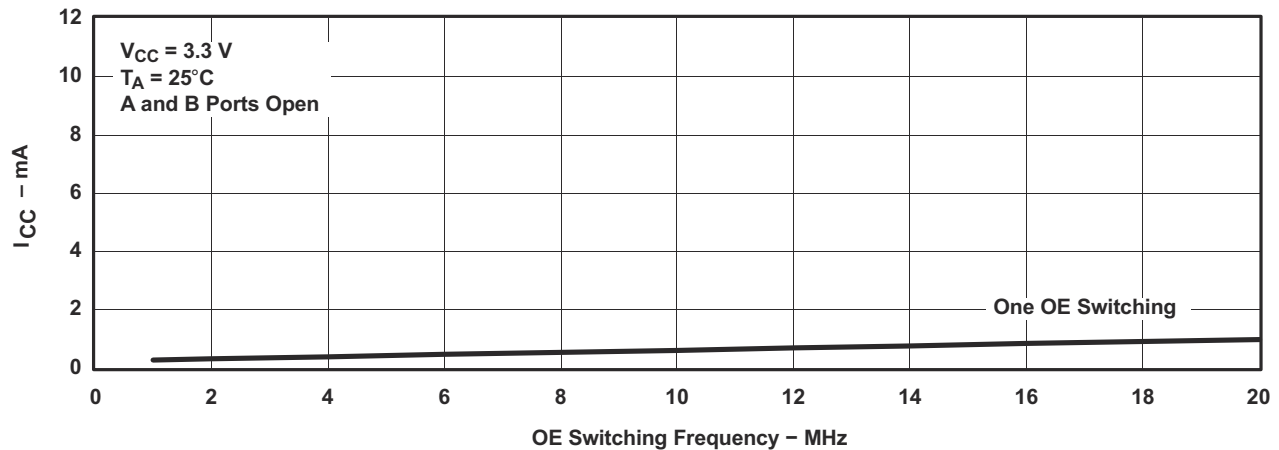

图 9-2. Typical  $I_{CC}$  vs OE Switching Frequency
(2) All typical values are at  $V_{CC} = 3.3\text{ V}$  (unless otherwise noted),  $T_A = 25^\circ\text{C}$ .
(3) For I/O ports, the parameter  $I_{OZ}$  includes the input leakage current.
(4) This is the increase in supply current for each input that is at the specified TTL voltage level, rather than  $V_{CC}$  or GND.
(5) This parameter specifies the dynamic power-supply current associated with the operating frequency of a single control input (see Figure 9-2).
(6) Measured by the voltage drop between the A and B terminals at the indicated current through the switch. ON-state resistance is determined by the lower of the voltages of the two (A or B) terminals.